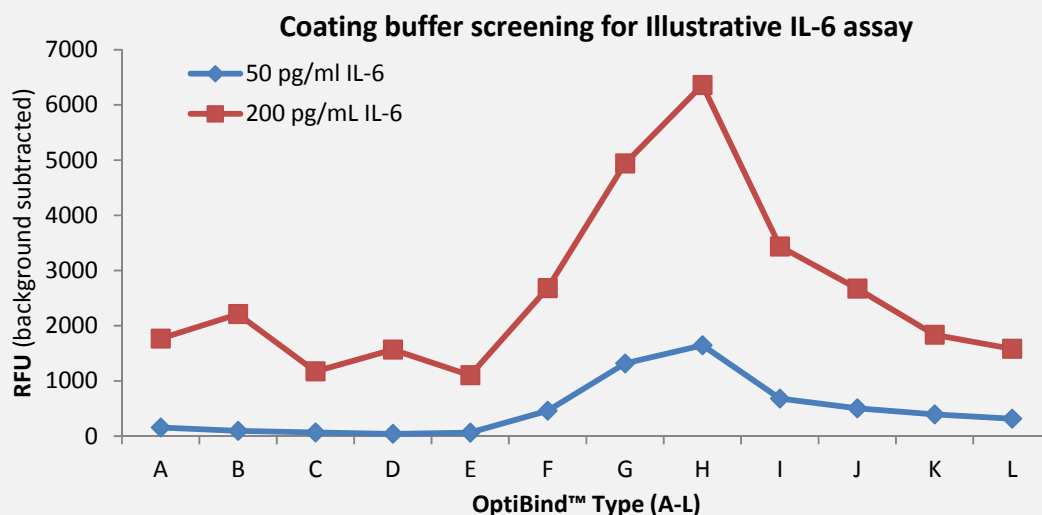

Figure 9. Results for coat buffer screening test for Illustrative IL-6 assay.
5. Choose the type of OptiBind™ coating buffer which gives highest signal (after subtracting background) **See Figure 9.**
Figure 9 shows screening test results for the illustrative IL-6 assay. Protein standard concentrations of 200 pg/mL (80% of max) and 50 pg/mL (20% of max) were used. 2 µg/mL of capture antibody and 2 µg/mL of detection antibody were used for this assay. Data read using Biotek FLx800 fluorescence plate reader with excitation filter at 528/20nm and emission filter at 590/35, sensitivity at 45. Data acquisition and analysis utilized Gen5™ software and Excel.
For the data shown in Figure 9, both curves for screening test result are valid and either curve can be used to select the best OptiBind™ buffer formulation. Both curves also demonstrate that OptiBind™-H is the best coat buffer for this assay.